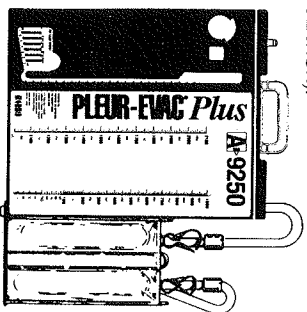

Fig. 10
1. Obtain and unwrap an A-1500 Replacement Bag (Fig. 10).
9. Attach the A-1500 Replacement Bag to the PLEUR-EVAC using the foot hook and ATS hanger on the side of the unit (Fig. 10).